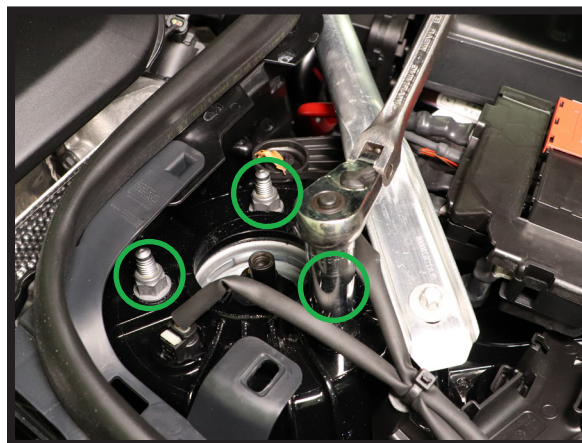

FIGURE 5
6. REMOVE THE THREE (3) TOP MOUNT NUTS. (FIGURE 5)